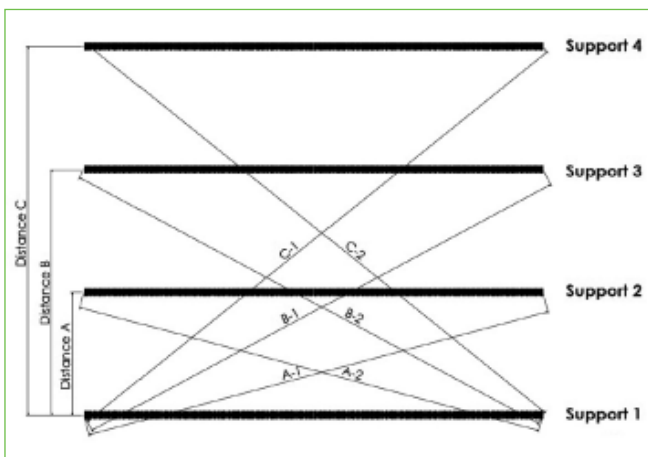

Figure 5. Line-up Pipe Stop
- When the distances between the rails is decided, the first two rails can be connected to each other. The first support can be placed in position and fixed to the surface. Connect two other rails for support 2. To line-up support 1 and support 2, the rails must be placed parallel, this can be done by measuring "Distance A" (figure 5). To check if the starting point of support 1 is the same as support 2, distance "A-1" and "A-2" can be measured. Distance "A-1" should be the same as "A-2". If the support is in position, it can be fixed to the surface. To line-up support 3 and 4 the same principal can be used, to minimize tolerances always measure from support 1. When the first two rails of each support are lined-up and fixed to the surface, the supports can be endless extend with other Pipe Stop Rails. Please contact 4 pipes for all questions about lining-up the rails.